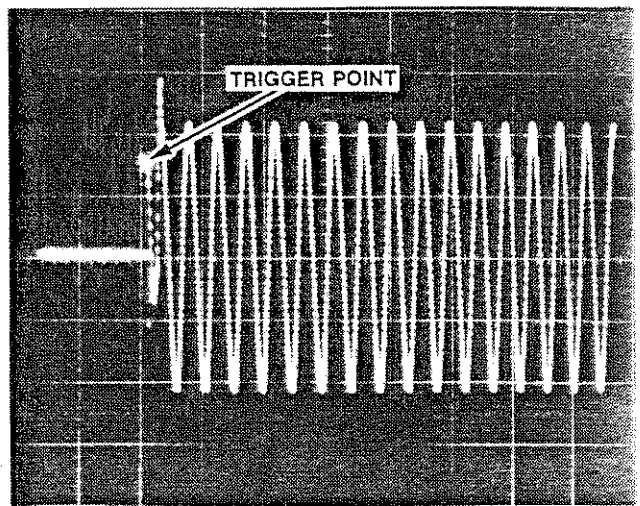

Fig. 3-48. Transient waveform acquisition display.
11. Turn on the sine wave generator. As soon as the signal meets the TRIG LEVEL 1 or 2 requirement, the TRIG'D indicator turns on, indicating that the waveform is being acquired. As soon as the waveform is acquired, the HOLD status is set and the waveform is displayed (Fig. 3-48).
12. Channel 2 also may be displayed on the CRT monitor, even though no waveform data is being input. This display can be removed by pressing the DISPLAY LOCATION key twice, to select the CH2 DISPLAY, then turning the Parameter Entry Knob until a display location of zero (0) is displayed.